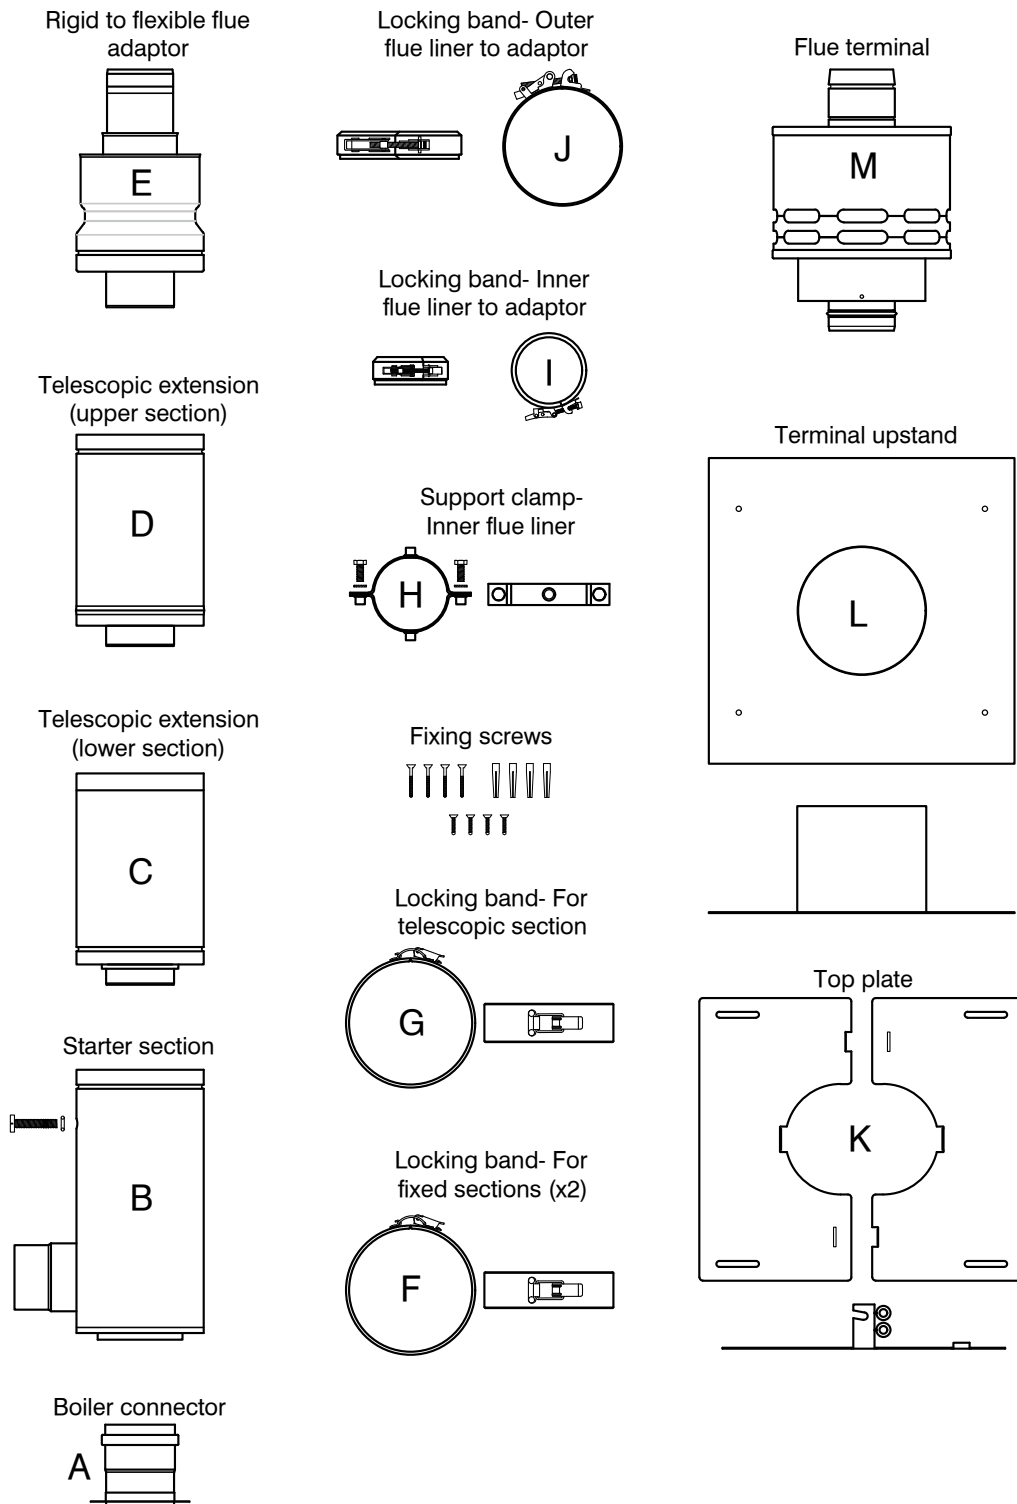

Figure 3-1: Pack 1 contents
The first type is painted white and is for connecting flue sections that butt together (2 of this type of locking band are supplied). Refer to item F in Figure 3-1.
The second type, also painted white, is to cover the joint on the adjustable (telescopic) section. Refer to item G in Figure 3-1.
The third and fourth locking bands are constructed from unpainted stainless steel. One is to secure the outer flexible flue liner to the adaptor (refer to item J in Figure 3-1) and the other is to secure the inner flexible flue liner to the adaptor (refer to item I in Figure 3-1).
*Refer to Figure 3-1
(Refer to Figure 3-1)
- Refer to item C of Figure 3-1.
- Fit one of the locking bands (item F of Figure 3-1) provided over the joint between the flue starter section and the lower section of the telescopic extension.
- Refer to item D of Figure 3-1.
- Secure the sliding joint using the intended locking band. Refer to item G of Figure 3-1.
The locking band for the adjustable section (item G of Figure 3-1) is labelled for easy identification.